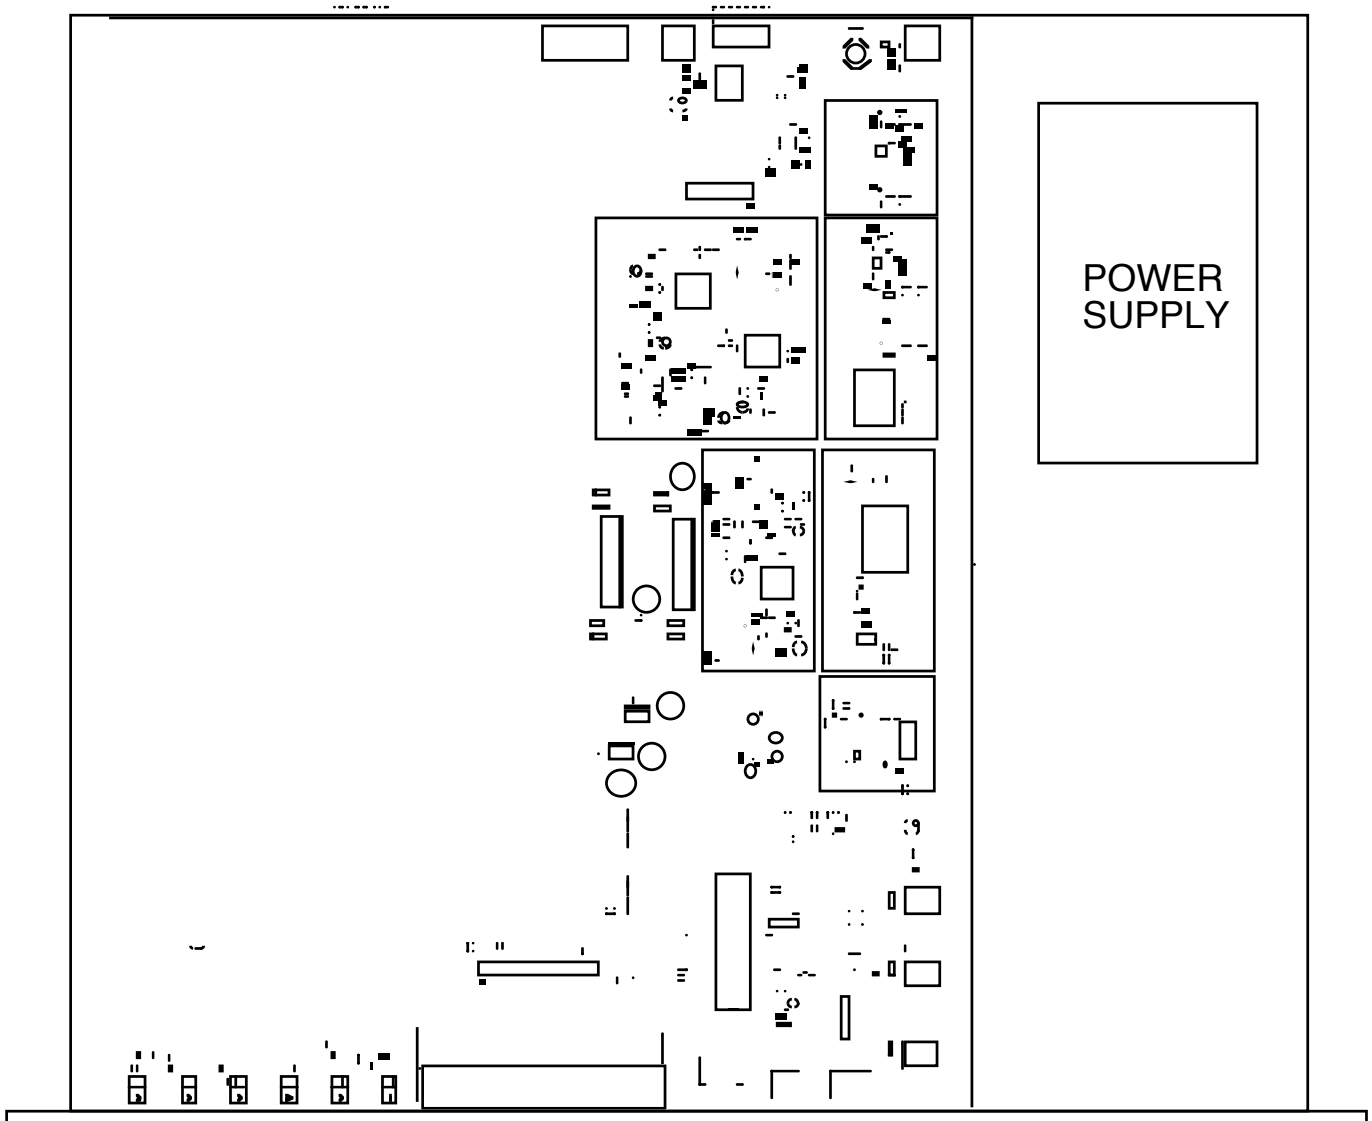

FIGURE 2.1 2083-0303 Mechanical Assembly
2.1 Mechanical - The 2083-0303 consists of one RF/Controller PCB housed in a 1 RU (1 3/4 inch high) by 16 inch deep chassis. A switching, ± 12 , +24, +5 VDC power supply provides power for the assemblies. The 2083-0303 can be secured to a rack using the 4 holes on the front panel. Figure 2.1 shows how the 2083-0303 is assembled.